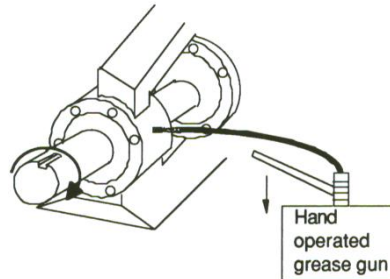

Figure 11. Re-lubricating bearing
3. Remove the plug(s) from the bearing housings and temporarily install one (1) alemite type grease lifting.
4. With a hand operated grease gun (see Figure 11), pump grease into the bearing, via the fitting, while slowly turning the shaft by hand. The old, used grease will be pushed out of the bearing and replaced with fresh new grease. Continue this process until all of the old grease is expelled. Larger pumps have two (2)
B.9. If the bearings are not damaged and are to be installed immediately, see Section 23 to re-lubricate the bearings using a hand operated gun. After they have cooled, pump grease completely covering both sides of the bearings while slowly turning the shaft by hand (See Figure 11: Filling Bearing Cavity with Grease).